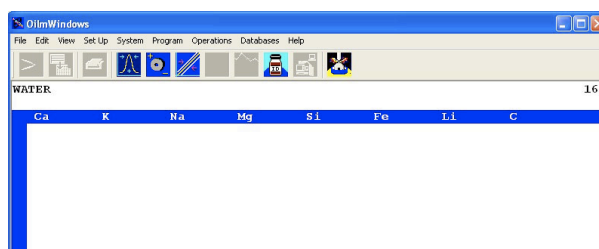

Figure 2-25, Main Water Analysis Screen
2. From the main analysis screen, Figure 2-25, press function key 7 (F7), choose the Standardization icon or select the Operations/Standardize pull down menu. The software will automatically clear all previous measurements from the video display. A dialog box